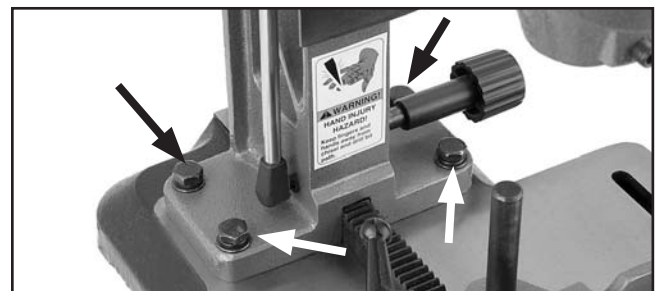

Figure 14. Hex bolts and washers securing column to base.
- Remove the four M8-1.25 x 25 hex bolts, flat washers and lock washers securing the column to the base, shown in **Figure 14**, and temporarily lay the headstock on its side on the workbench.